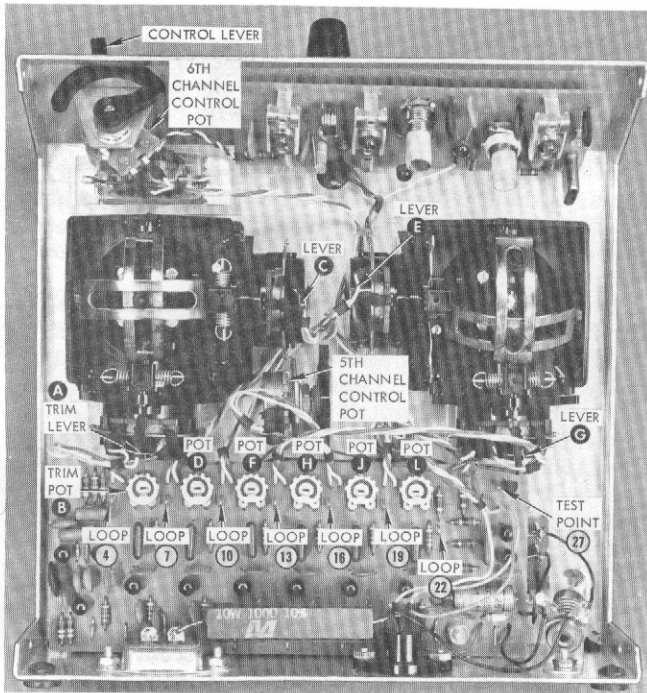

Figure 30. Logic Calibration Points (Two-Stick)
TRANSMITTER LOGIC CALIBRATION (Figures 30 and 31)
215. Set front transmitter controls, including trims, to neutral. Place trim levers **A**, **C**, **E** and **G** in straight up position, and set trim pots **B**, **D**, **F**, **H**, **J** and **L** to 12 o'clock positions. (See figures 30 and 31.)
Proceed with transmitter logic calibration, using your choice of either of the following two methods. Basic alignment instructions are primarily for the standard two-stick, six-channel unit. Variations for the single-stick (3-axis) transmitter are specifically noted as they occur. Figures 30 and 31 provide location and identification of all controls used in logic calibration.
243. If servo responds properly to transmitter commands, hold front aileron trim control and adjust position of trim lever (A) until servo output arms are centered. See figures 30 and 31 for logic calibration adjustment points.